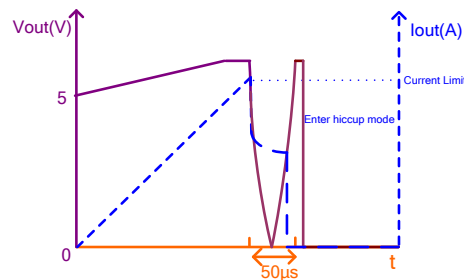

Figure 7: Over-Current Limit for CR Load
After the soft-start finishes, if the USB output voltage is lower than 3.5V and lasts longer than 50 $\mu$ s, the MPQ4481 enters hiccup mode without having to wait 5ms (see Figure 7). This can prevent an abnormal thermal rise during the constant resistor (CR) load over-current case.